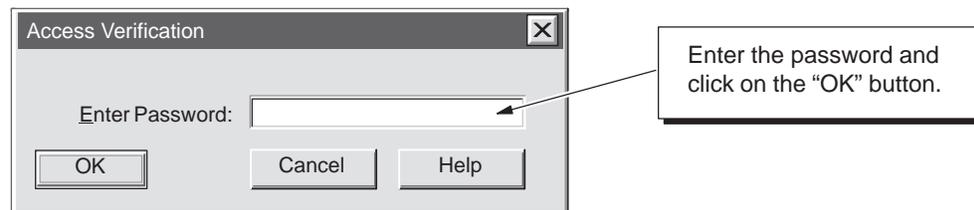

Figure 4-19 Entering the Password for WinLC
2. In the “Access verification” dialog box, enter the password for WinLC and click on the “OK” button. See Figure 4-19. (If the security level is set to “None” or no password has been configured, simply click on the “OK” button.)